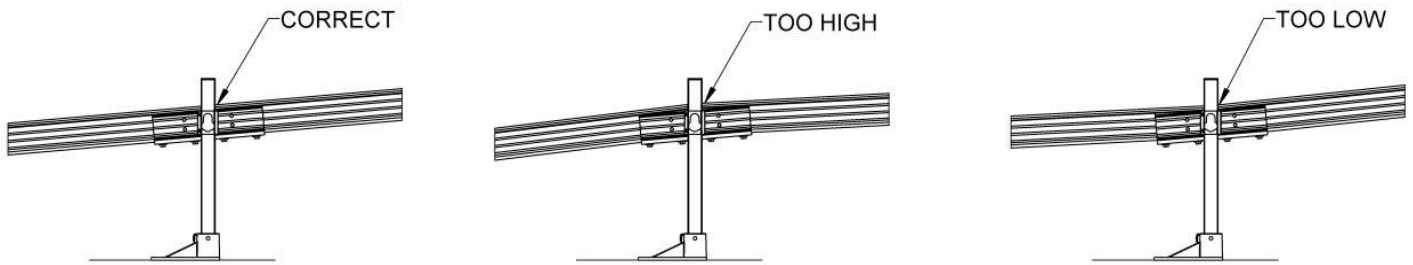

FIG. 3.8
- ✎ It's important to ensure that the ramp sections are parallel to each other. If they are not, it may be difficult to install the handrails (FIG. 3.8).